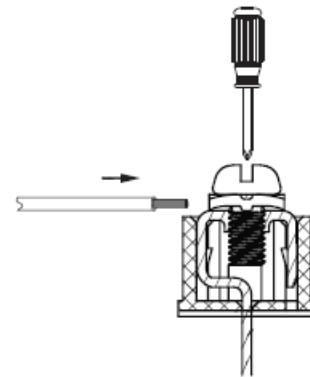

Fig. 18 —Connecting Communication Wire to Outdoor Unit Communication Terminal
3. Use a suitable screwdriver to fix the communication wire on the outdoor unit communication terminal as shown in Fig. 18.